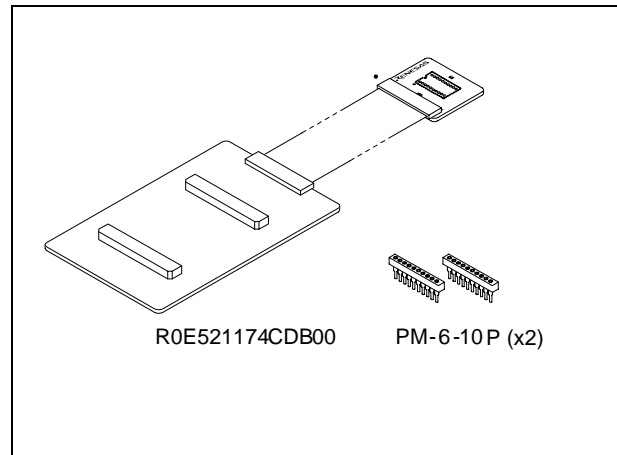

Figure 1 Package components of the R0E521174CDB00
2. Package Components (See Figure 1)